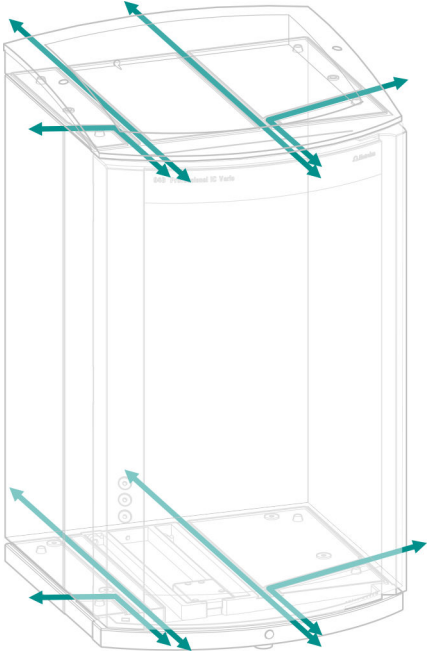

Figure 5 Ducts for capillaries
- Ducts between the instrument and the base tray as well as between the instrument and the bottle holder (see Figure 5, page 12)